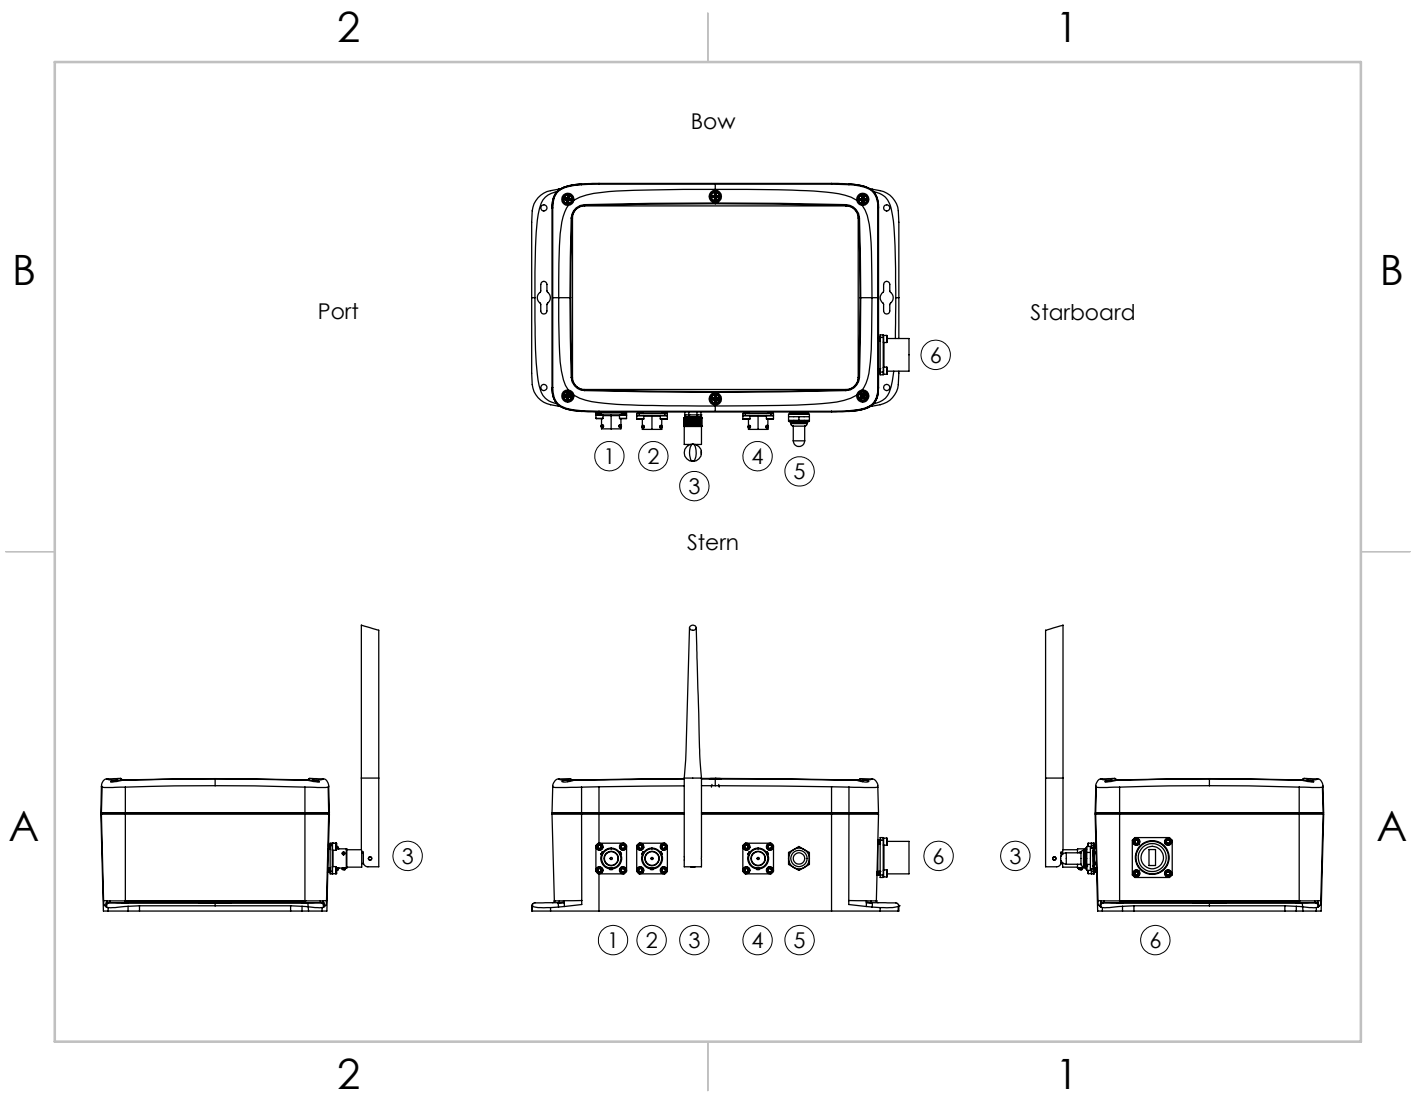

Figure 5: AutoNav™ Layout
13. Place the AutoNav™ on the Hydronautics™ frame. Power switch facing the stern. (Figure 5)
16. Screw in the 1x Telemetry Module Antenna into the SMA bulkhead on the AutoNav™. (Figure 5)